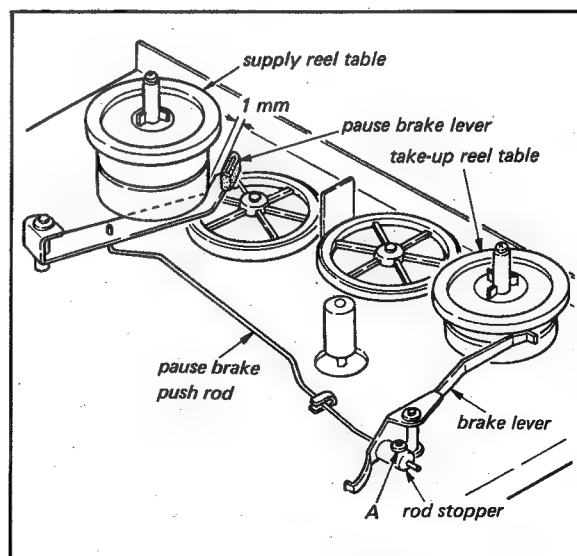

Fig. 4-20. Rewind idler replacement
2. If this condition does not exist, turn nut "A" and adjust the Rod Stopper shown in Fig. 4-20.